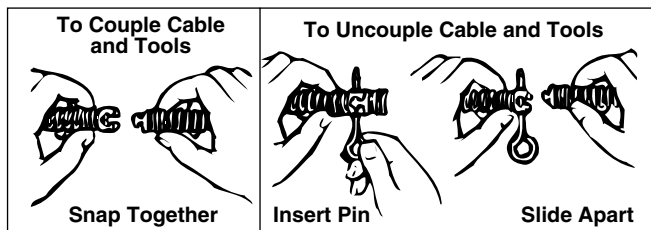

Figure 4 – Coupling and Uncoupling Tools
- Select and install the proper tool to the end of the cable. The T-Slot Coupler allows the tool to be snapped into the cable coupler (Figure 4). To remove tool, use the pin key to depress the plunger and slide the coupling apart.